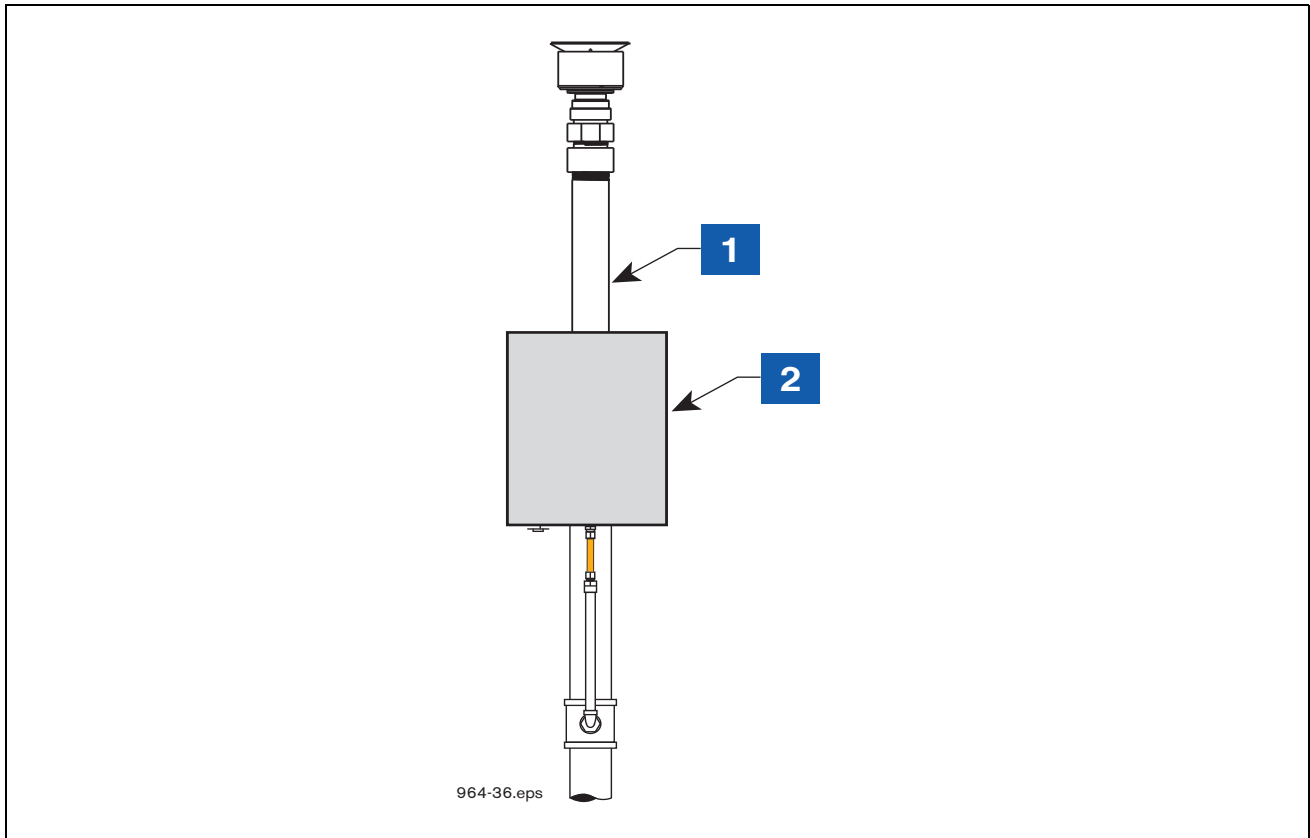

Figure 15. VRPS Mounted In Universal Enclosure On The Vent Stack
1. A Transmitter/battery pack pair must be installed with the Veeder-Root Vapor Return Pressure Sensor (VRPS) in the Universal Enclosure and mounted on the vent stack (see Figure 15).
LEGEND FOR NUMBERED BOXES IN Figure 15